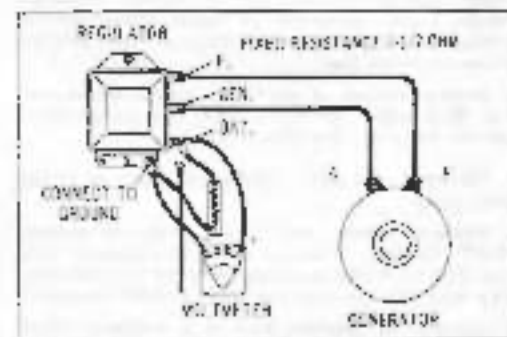

Figure 51-6.
B. TESTING OUTPUT UNIT SETTING AND VOLTAGE CONTROL UNIT SETTING (FIG. 51-6)